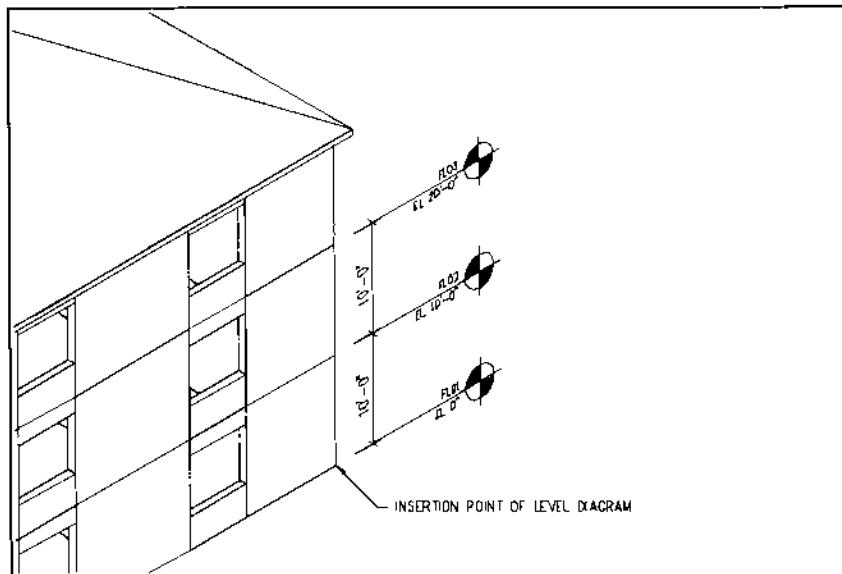

Figure 26.
2. Pick Zoom Window under the Display pull-down menu and zoom into right front corner of the building as shown in Figure 26.
4. Select Level Diagram from Multi-story and use the front right side of the building at level 0, as the insertion point as shown in Figure 26.
- > Pick insertion point: **ENDP of [front right side of building as shown in Figure 26]**